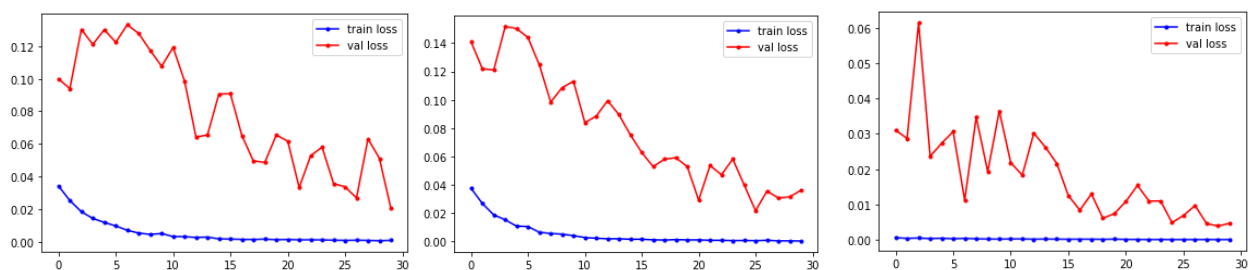

Fig4: CNN + LSTM Model (Val Loss & Train Loss Curve) (Model1, Model2, Model3)
- In Fig 4 you can observe that the distance between the val loss curve & train loss curve decreases from model 1 to model 3. This is because in model1 is the curve after first training the model and model 3 is curve after training the model 3rd time. Model3 is overfitted as train curve is a straight line.